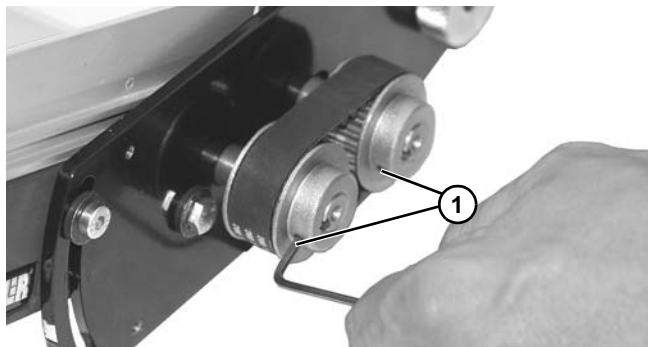

Figure 80
- Be certain both pulleys are flush with shaft and tighten set screws (**Figure 80, item 1**) onto pulleys.